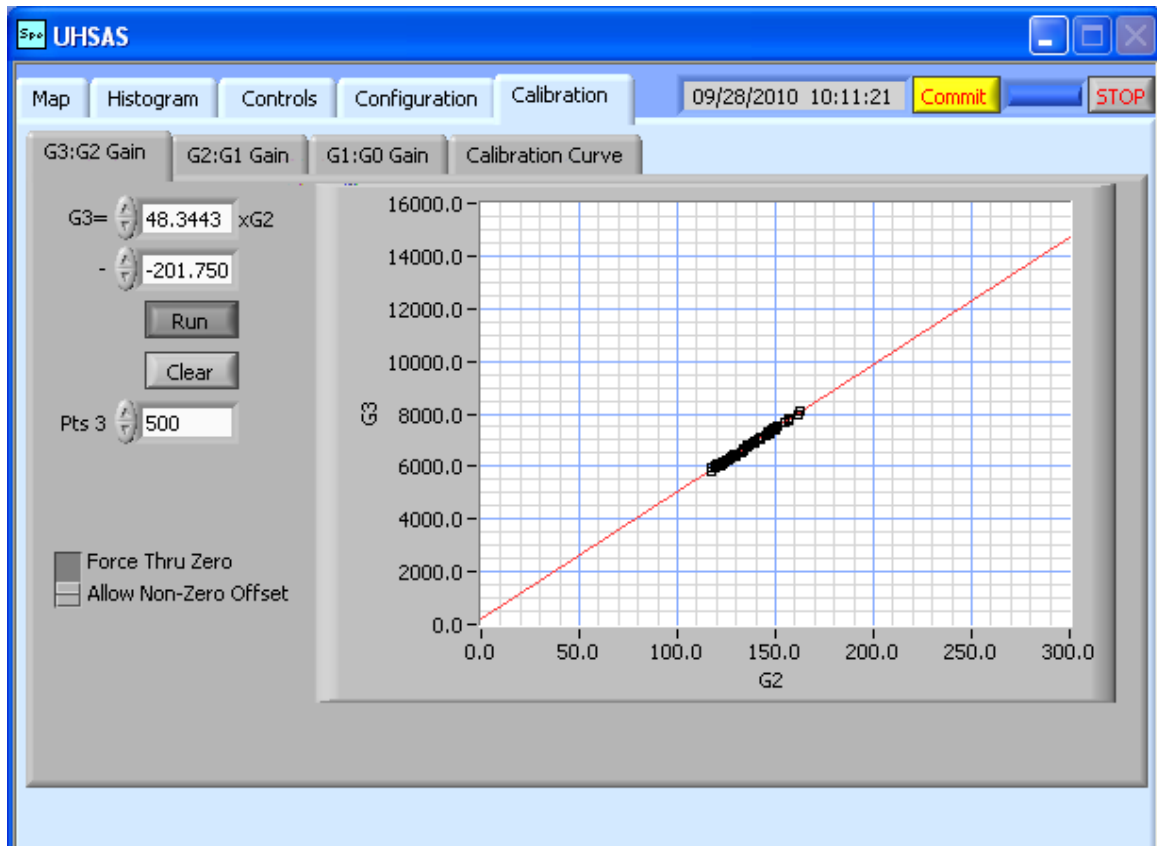

Figure 17: Running a Relative Gain Calibration
- 5.) Press **Run**. As particles are sampled, they appear on the relative gain plot. (See Figure 17.) Those particles which can be measured on both G3 and G2 will be used to measure the relative gain and offset between these stages. When a minimum number of data points has been reached, the gain parameters begin to appear in the boxes in the top left of the screen. The minimum number of points for a relative gain calibration is hard-coded in the software and varies depending on the gain stages being calibrated. This number is displayed in the **Pts** field. When this number is reached, new points are no longer added to those being displayed and being used to calculate the calibration. The relative gain calibration can also be stopped manually by pressing the **Run** button again. *Note: while relative gains are being calibrated, the switch in the bottom left of the screen should be set to "Allow Non-Zero Offset."*